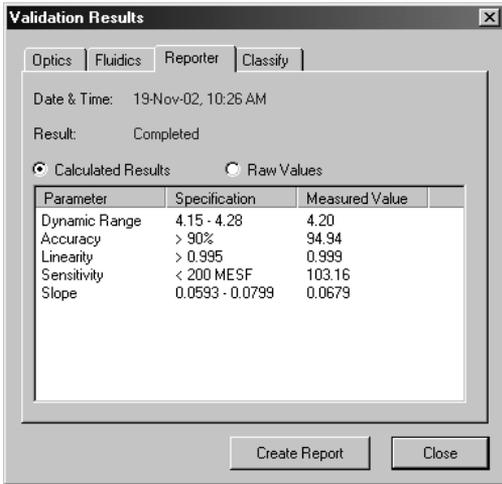

Fig. 9. Reporter validation results.
10. When the procedure is completed, values will be displayed in a dialog box as shown below (Figure 9). The classify efficiency and DD efficiency results may be accessed in this view.